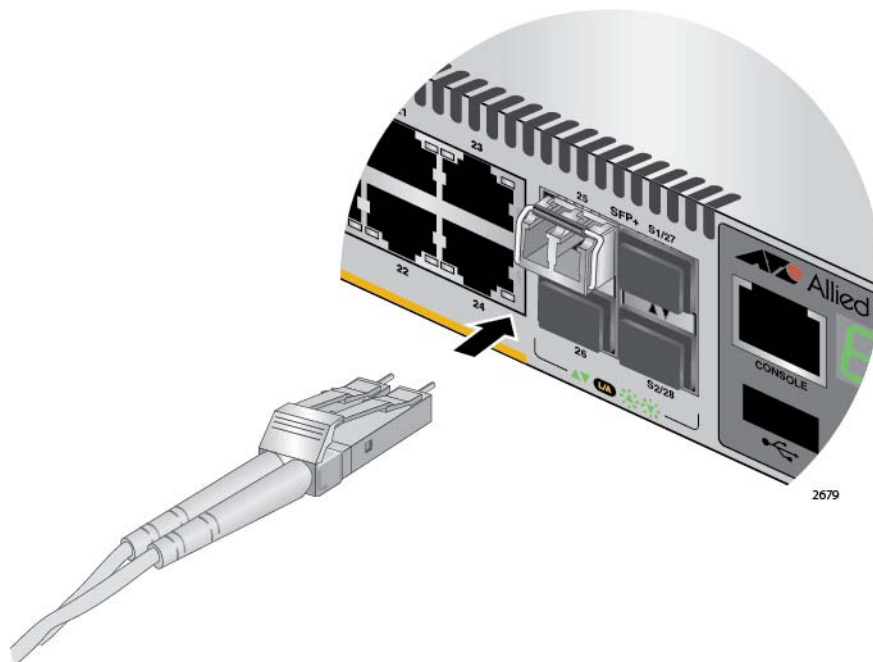

Figure 28. Connecting a Fiber Optic Cable to an SFP or SFP+ Transceiver
7. Connect the fiber optic cable to the transceiver, as shown in Figure 28. The connector on the cable should fit snugly into the port, and the tab should lock the connector into place.